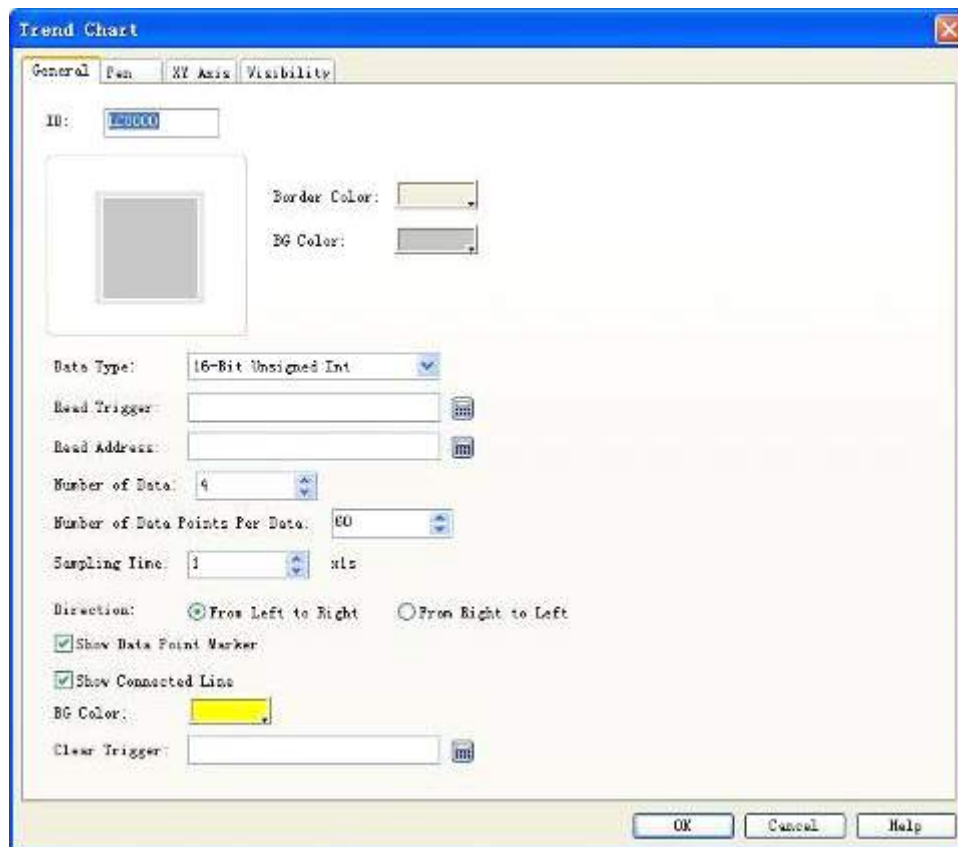

Figure 4-90: Trend Chart dialog
1. Click Trend Chart icon  in the tool bar, and then a Trend Chart property dialog as shown in Figure 4-90 will appear.